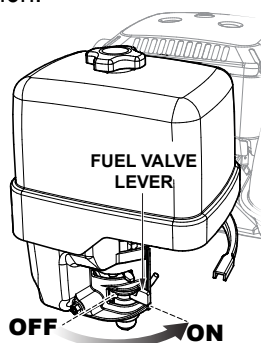

Figure 10. Engine Fuel Valve Lever (ON Position)
1. Place the engine fuel valve lever (See Figure 10) to the **ON** position.